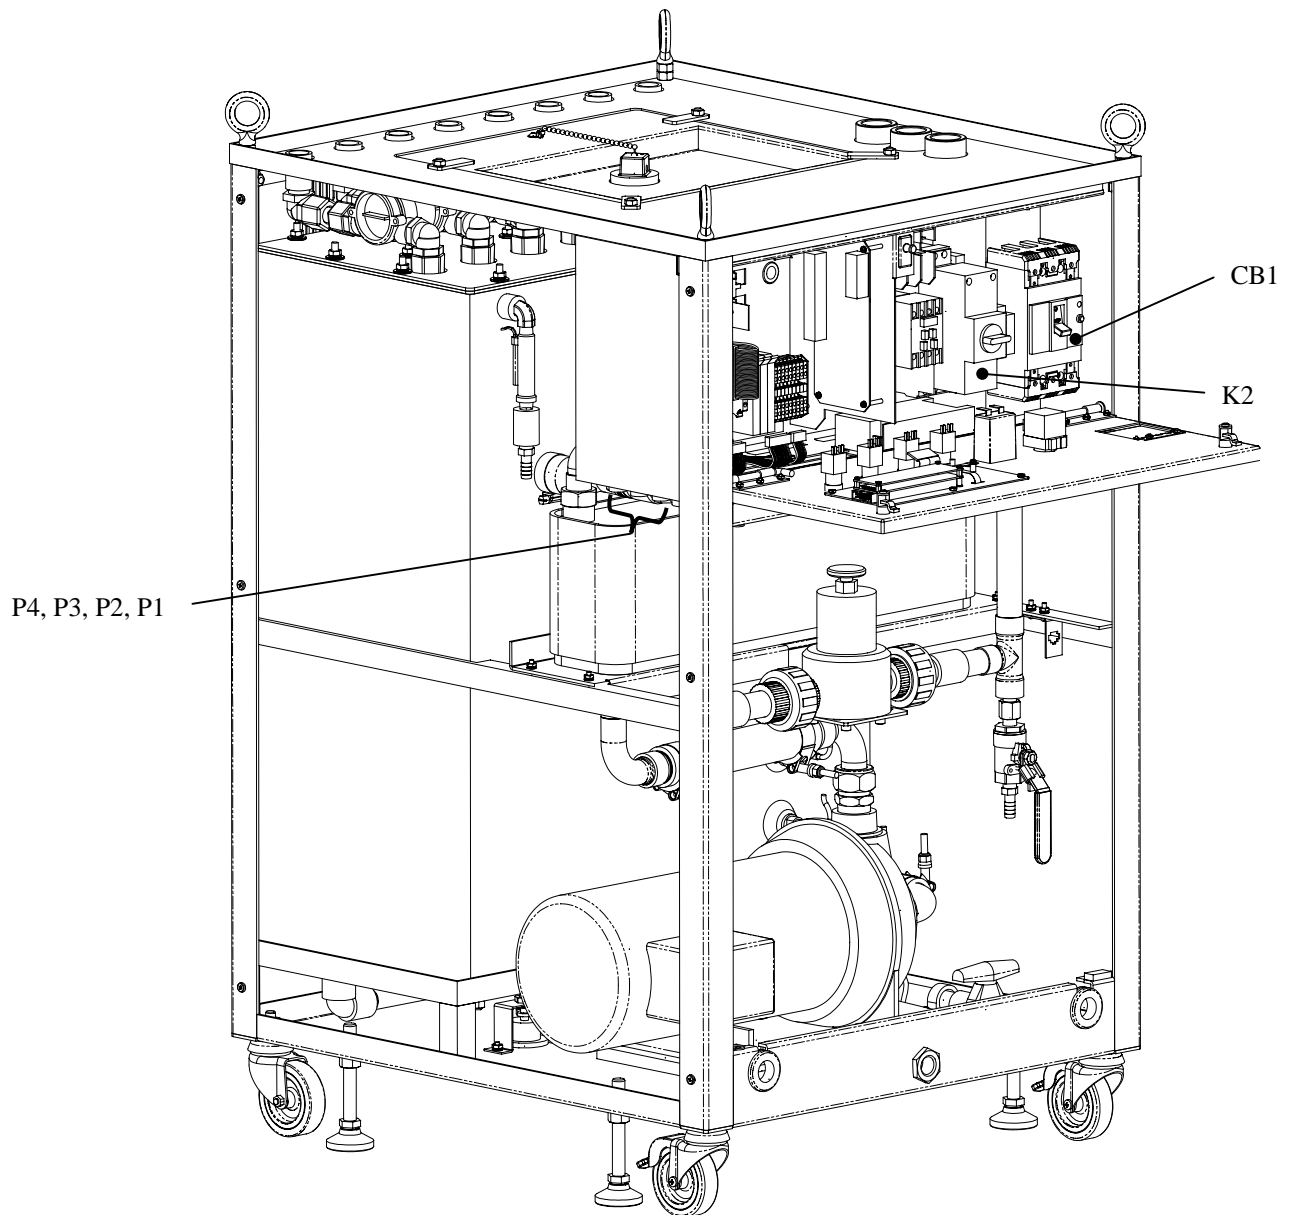

Figure 3.3 - Connections for Main Power and Host Interface Cables
This section describes the installation of the main power cable, and all host interface cables (for analog and serial communication). Figure 3.3, below, illustrates the connections to be made.
4. Pull the upper terminal cover on the earth leakage circuit breaker (“CB1/GFI” in Figure 3.3) straight out to expose screw terminals labeled 1, 3, and 5. Do not remove the yellow WARNING label from terminal cover.
2. Toggle the switch on CB1/GFI (see Figure 3.3) down to the OFF position.
3. If not already done, turn the knob on the integral starter (see Figure 3.3) clockwise to the AUTO (12 O'clock) position.
6. Toggle the switch on CB1/GFI (see Figure 3.3) upward to the ON position; the green **MAIN POWER ON** LED indicator should be illuminated.
Note in Figure 3.3, the circular arc segment with arrowhead drawn on the end of the motor housing. This arrow indicates that the correct direction of motor rotation is clockwise as viewed from the left side of the HTU.
- 1a. Loosen (but do not remove) the six (6) screws on the HTU left side access panel.
Host Interface Cables: There are four (4) connectors located on the bottom left corner of the control cabinet; see Figure 3.3. Starting from the front and moving toward the rear, they are labeled “P1 I/O”, “P2 EMO”, “P3 LEAK”, and “P4 EMO”. The customer must provide the appropriate cable assembly from the Host Controller, to each of the four connectors. On the analog version the DeviceNet card is replaced with an analog adapter plate, housing 8 connections marked R₁ through R₈. Each cable assembly must include the following components: